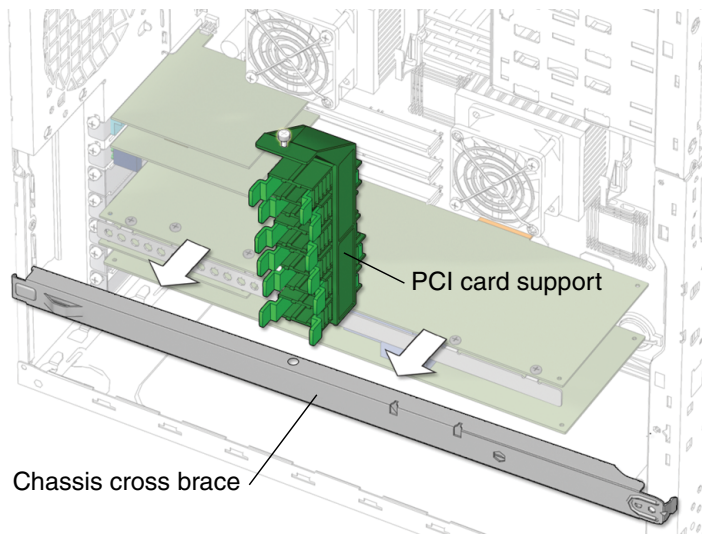

FIGURE 13-46 Removing Chassis Cross Brace and PCI Card Support
6. Remove the chassis cross brace (FIGURE 13-46).